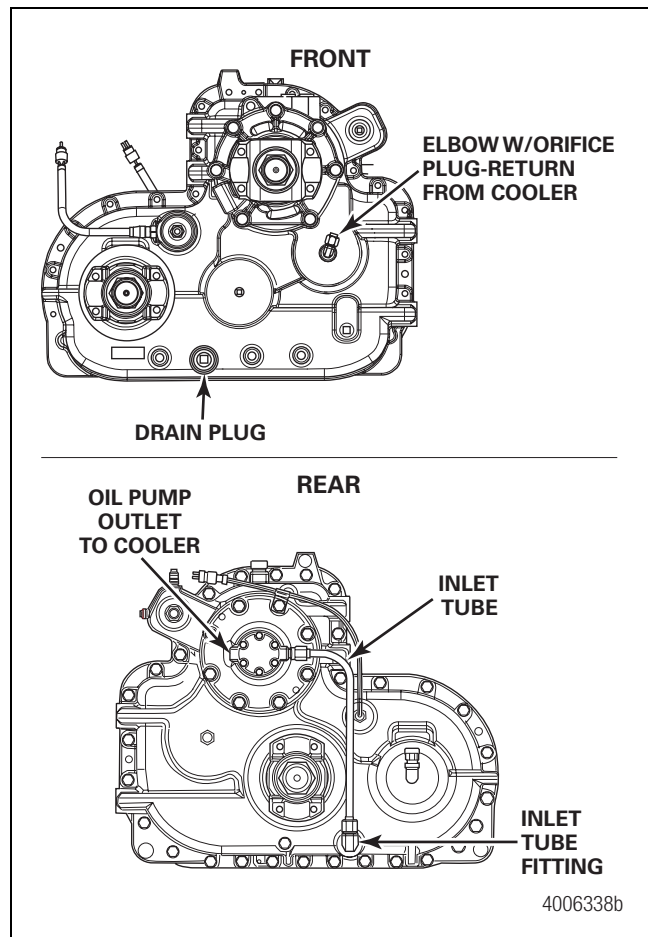

Figure 1
4. Use a socket to remove the drain plug. Figure 1.
6. Disconnect the inlet oil line and original lube fittings. Some hardware may vary depending on the model. Lube suction may be on the front or back. Figure 1.